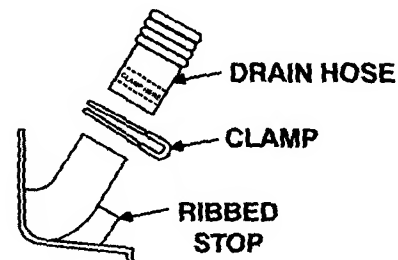
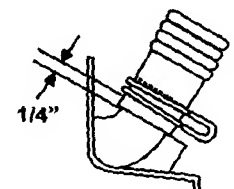

Fig. 10
Fig. 11
10. Push the other end of the drain hose down over the drain hose connector on the back of the washer all the way down to the ribbed stop. (Fig. 10) Secure with the clamp at the position shown in Figure 11.